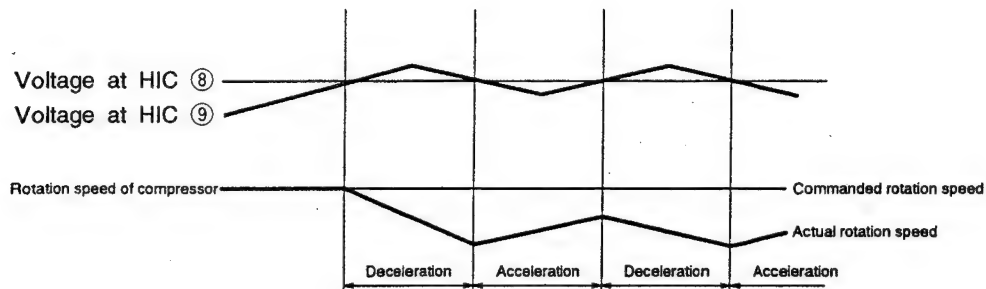

Fig. 8-7
- The filter consisting of R320 and C1 removes high harmonic components from the voltage generated by the current flowing to R806, R2 and C304 average the voltage. This voltage is then input to OP1 pin ⑤ and amplified and is supplied to micro computer pin ⑫ which is compared with the voltage at pin ⑬. If the voltage at pin ⑫ is higher than that at pin ⑬, the micro computer enters the overload control mode.
- Fig. 8-7 shows the rotation speed control. When the voltage at pin ⑨ of HIC exceeds the set value at pin HIC ⑧, the micro computer decreases the rotation speed of the compressor and reduces the load regardless of the rotation speed commanded by the indoor micro computer.